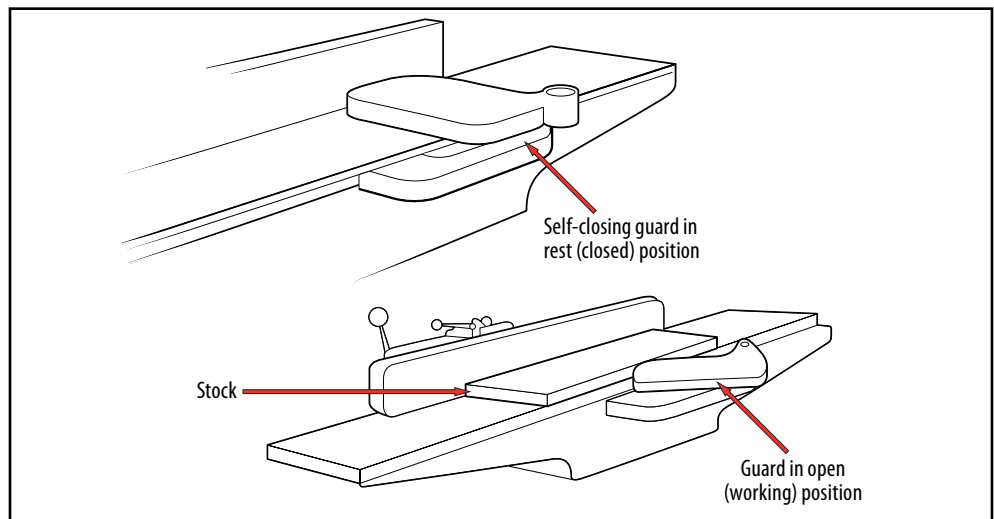

Figure 4.15. Typical jointer.
- Hand-fed jointers with a horizontal cutting head (Figure 4.15)